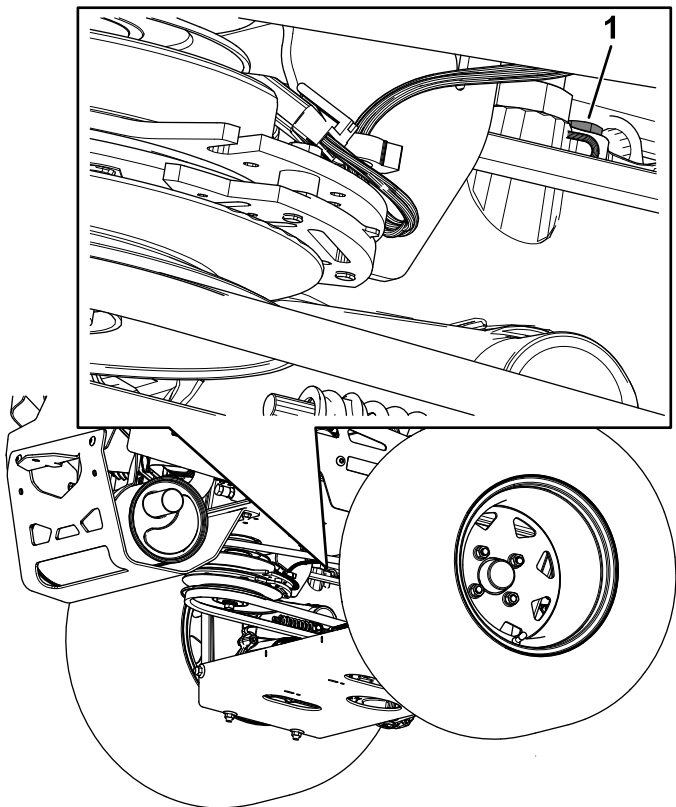

Figure 86
- For ZT 5400 Hydros, use a 7/16-inch wrench to access the vent plug from underneath the machine (Figure 86).